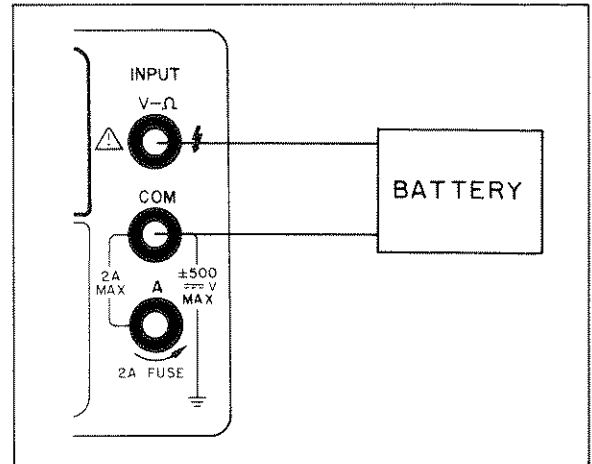

Figure 3-4. DC Voltage Measurements.
- c. Connect test leads from the Multimeter VΩ (high) and COM (low) terminals to the voltage under test as shown in Figure 3-4.